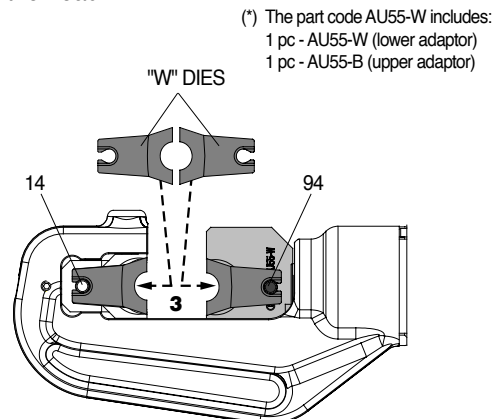

FIG. 3d
- Press pins (14 and 94) and insert one "W" die into the upper adaptor AU55-B and the other into the lower adaptor AU55-W (3) (see Fig. 3d); to disassemble them it will be sufficient to press the pins and to slip them from the head.